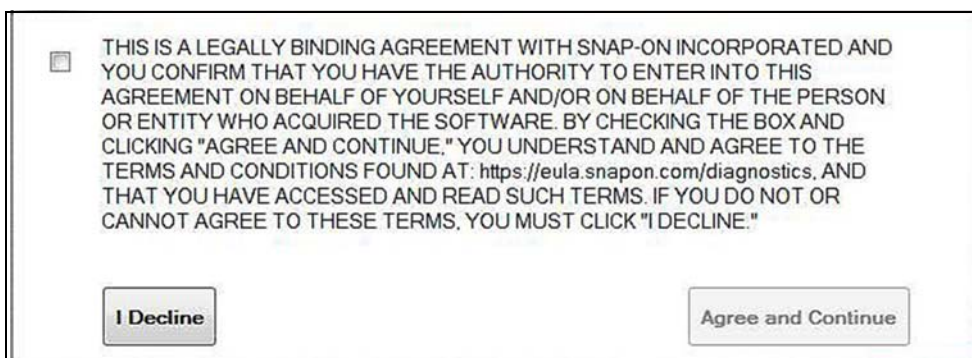
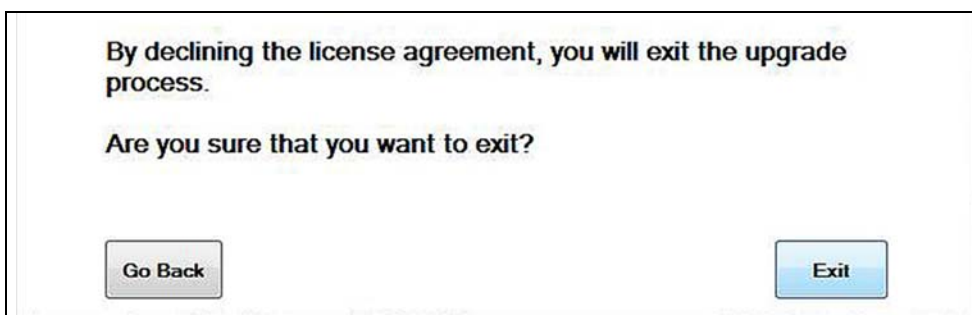

Figure 9-10 Typical EULA acceptance screen
Figure 9-11 Typical EULA acceptance screen
**To Accept:** at the screen prompt (Figure 9-10) click the checkbox on the left side of the window, and then select **Agree and Continue**. The software will be installed automatically.
Figure 9-10 below represents a typical EULA acceptance agreement screen.
**To Decline:** at the screen prompt (Figure 9-10) select **I Decline**. A confirmation message is displayed providing options to Go Back or Exit the software installation (Figure 9-11).